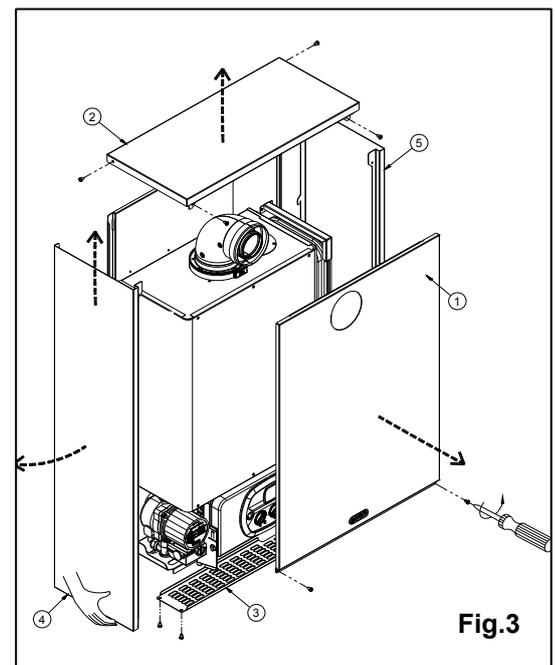

Fig.3
Front panel (① fig. 3):
Left and right side panel (④ and ⑤ fig. 3):
- Unscrew the top panel ② (fig. 3) fixing screws and lift it upwards.